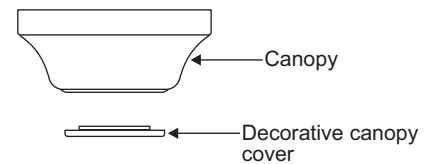

Figure 8
2. Remove the decorative canopy cover from the canopy. (Fig. 8)